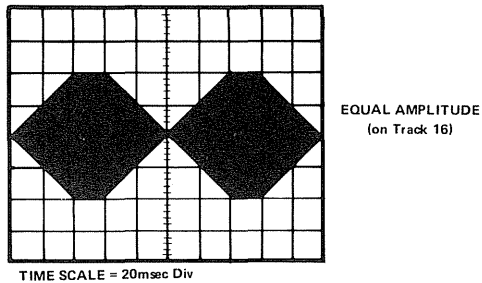

FIGURE 11. "CAT EYES" PATTERN
3. Read track 16 and verify the "cat eyes" pattern as shown in Figure 11. The smaller of the two "eyes" should not be less than 75% amplitude of the other. $\% = (\text{small lobe}/\text{larger lobe}) \times 100$.